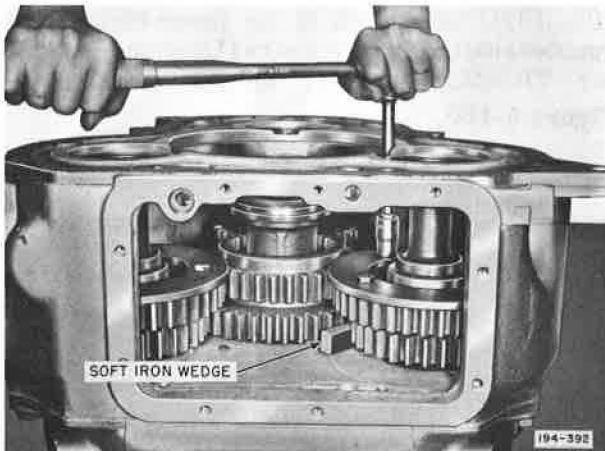

Figure 5-182. Tightening Upper Compound Countershaft Thrust Washer Capscrews
27. Install upper compound countershaft thick thrust washer capscrews and run down finger-tight. So that gears cannot turn, place a soft iron wedge between gear teeth and tighten thrust washer capscrews to recommended torque. See Figure 5-182.